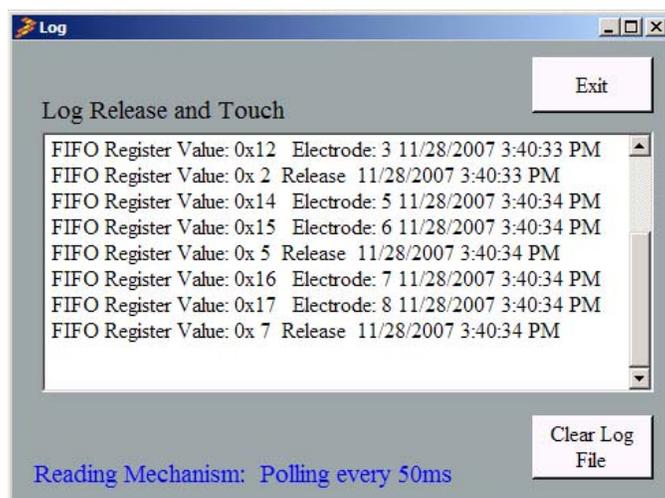

Figure 15. Log Rotary Window
- 3) FIFO Log Rotary – This allows the user to view the FIFO log in a floating window. If the device is running and as the user rotates their finger around the pad, the text box will log the user’s touch and releases. The log file will contain the read value, position number, date and time (Figure 15).
- 2) Selecting the Rotary Release Buffer Enabled check box, enables the bit to determine whether not data is logged in the FIFO when the rotary transitions from a touched or untouched state. When the rotary release is enabled, the user can view the log file and view when the rotary has transitioned from a touched to untouched state by going to the menu strip at the top of the window and selecting “Rotary” and then selecting “FIFO Log of Rotary” (Figure 15). If the rotary release is disabled, the log file will not log rotary releases.
- 3) Selecting the Rotary Touch Buffer Enabled check box, enables the bit to determine whether or not data is logged in the FIFO anytime an electrode is pressed. When the rotary touch is enabled the user can view the log file and view when the rotary presses by going to the menu strip at the top of the window and selecting “Rotary” and then selecting “FIFO Log of Rotary” (Figure 15). If the rotary release is disabled, the log file will not log rotary releases.